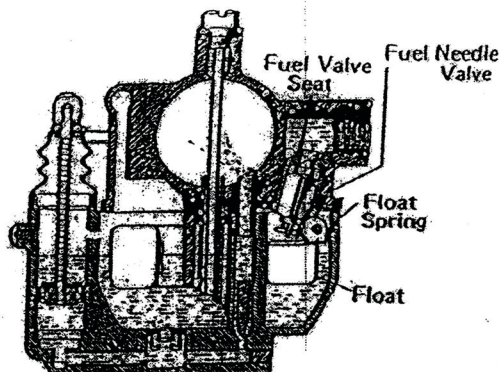

Figure 2
1. Assemble throttle return spring (38) on throttle shaft (35). Then assemble seals (9 and 33), seal retainers (10 and 34) and throttle shaft in throttle body.
2. Assemble throttle plate (6) on throttle shaft and secure loosely with screws (7). Snap plate open and shut several times to center plate in bore. Hold plate in place and tighten screws.
3. Assemble seal (13), seal retainer (14), cup plug (32) friction pin spring (27), friction pin (26) and choke shaft in throttle body.
4. Assemble choke plate (30) on choke shaft and secure loosely with screws (31). Tighten screws using same procedure as for throttle plate.
5. Assemble body to body gasket (29) on throttle body. Insert fuel valve (28) in fuel valve seat. Assemble float spring (23), float (22) and float axle (24). Be sure that fuel valve clip is attached to float tab.
6. Also be sure that float spring is positioned so that short end engages tab of float and so that long end can be rotated inside fuel bowl (Figure 2).
1. Hold carburetor inverted and rotate long end of float axle spring upward against float. Carefully position fuel bowl on throttle body releasing float spring so that long end of spring presses against side of bowl (Figure 2).
2. Assemble main jet and discharge tube (18) with O-Ring (16) and washer (17) in place through hole in bottom of bowl and into throttle body boss.
3. Assemble gasket (4) on idle tube (1) and insert tube in throttle body. Carefully guide tube through bore and into discharge tube on opposite side of venturi. Tighten idle tube and main jet.
4. Attach accelerating pump lever (11) to accelerating pump and to throttle shaft using screw (12).